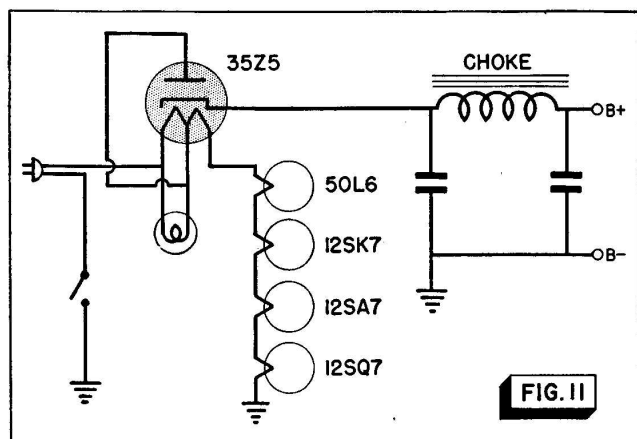

FIG. 11
► The recent a.c.-d.c. receivers generally use .15-ampere tubes and the 35Z5 rectifier tube in the circuit shown in Fig. 11. As you will notice, the rectifier tube has a tap on its filament. This tap is arranged so that a portion of the filament can be used as a shunting resistor across the pilot lamp, and, since the plate of the tube is connected to this tap, the rectifier plate current flows through the pilot lamp and its shunting filament section. (This makes the lamp light brilliantly at first when the tube filaments are cold, dim down to a low brilliancy as the filaments warm up, then light up more brightly again as rectifier plate current flows through it.) This peculiar connection is used as a protection for the rectifier tube.
To avoid this, the circuit shown in Fig. 11 has the pilot lamp arranged so that, if too high a plate current
Except for the tapped filament, and the fact that the tubes are chosen so that their filament voltage values add up to the line voltage value, the circuit in Fig. 11 is much like those previously shown.